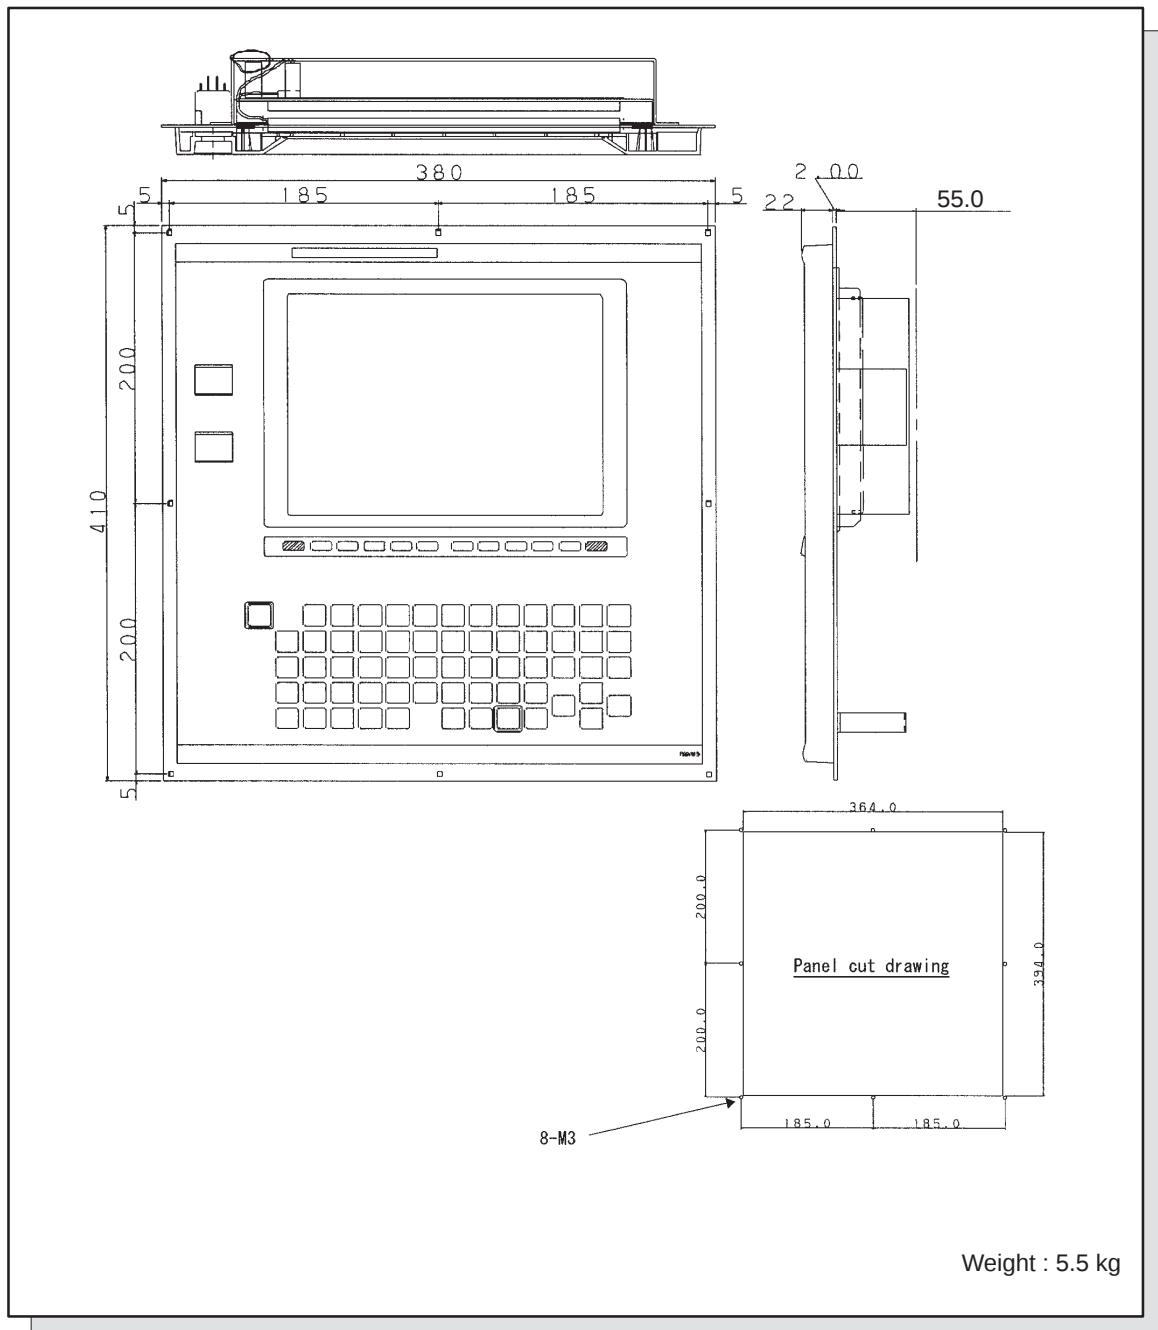

Fig. 9 9.5" LCD/MDI (HORIZONTAL TYPE), 10.4" LCD/MDI (HORIZONTAL TYPE)
9.5" LCD/MDI (horizontal type), 10.4" LCD/MDI (horizontal type)	Fig.9